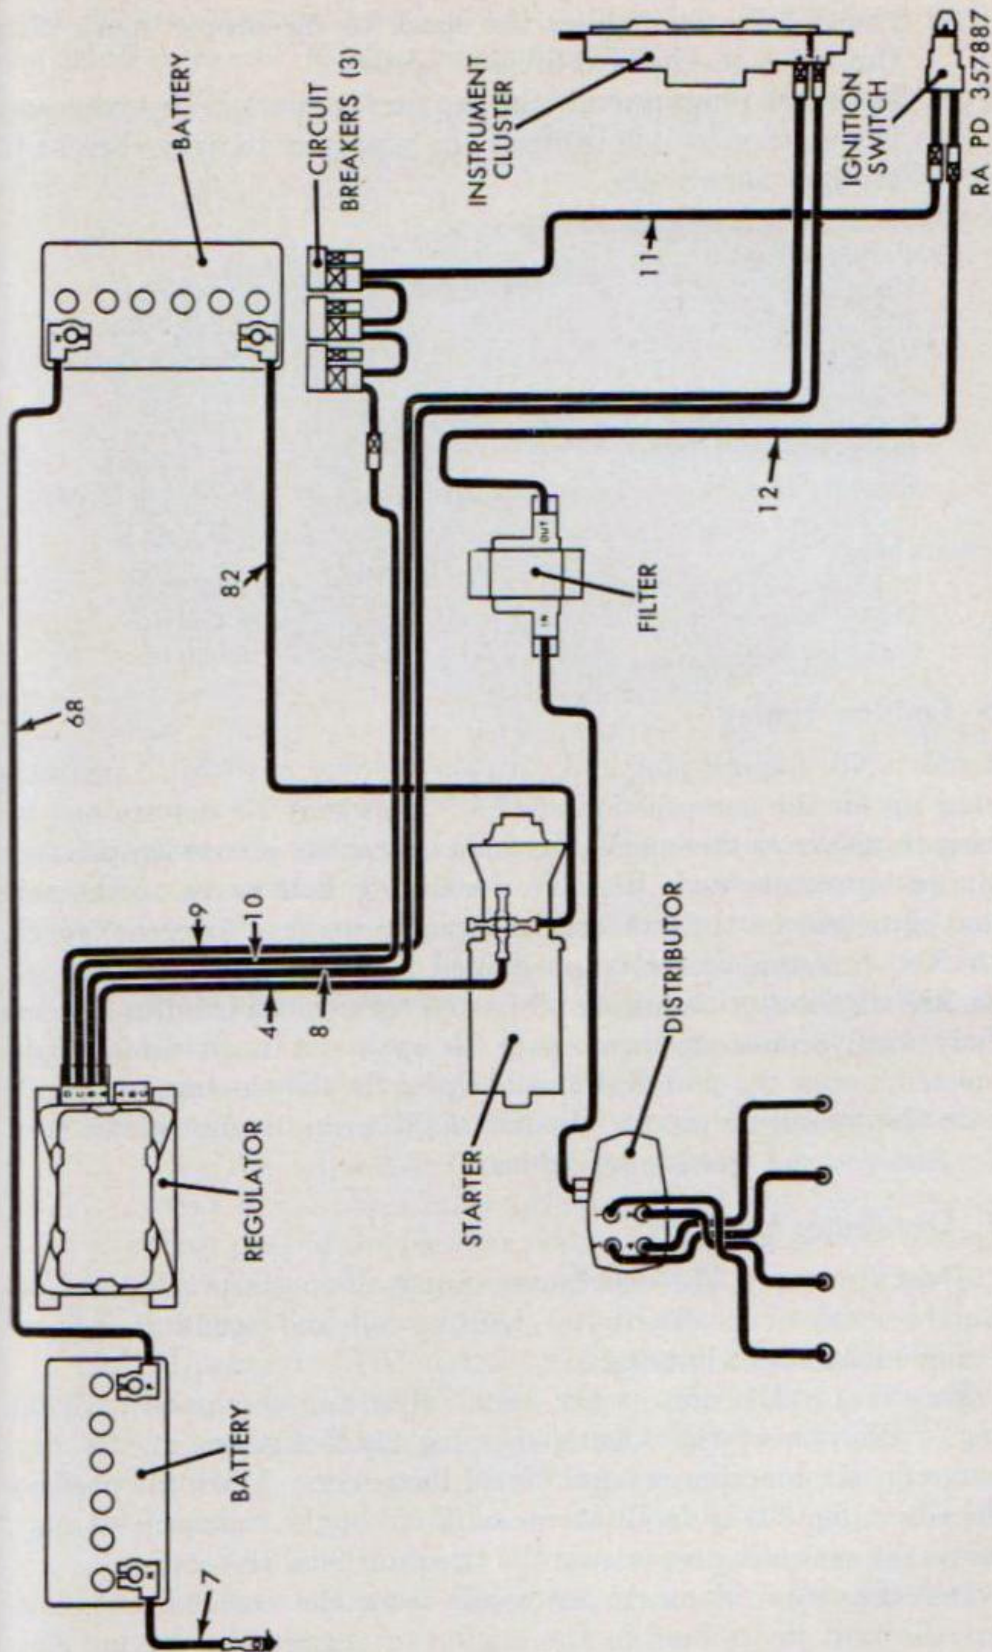

Figure 32. Ignition system circuit.
*a. DESCRIPTION.* The ignition system (fig. 32) furnishes the spark required to ignite the air-fuel mixture in the cylinders after it is compressed. The spark must occur in each cylinder at exactly the proper time and the spark in the various cylinders must follow each other in the correct sequence of firing order. The following components make up the ignition system.
- (1) The batteries which supply the electric power.
- (2) The ignition coil which is built as a unit with the distributor. This transforms the battery voltage to a high voltage that can jump the spark-plug gap.
- (3) The ignition radio noise suppression filter which is housed in a
The ignition filter (fig. 32) is mounted on the dash panel under the air cleaner with four screws. It is placed in the primary circuit. This is a capacitor and coil type and is used to suppress radio interference which may originate in the ignition system. An open circuit in the coil or a shorted capacitor will interrupt the flow of current to the distributor causing engine stoppage or failure to start. The filter is a sealed unit and cannot be repaired. Should it be faulty, it must be replaced.